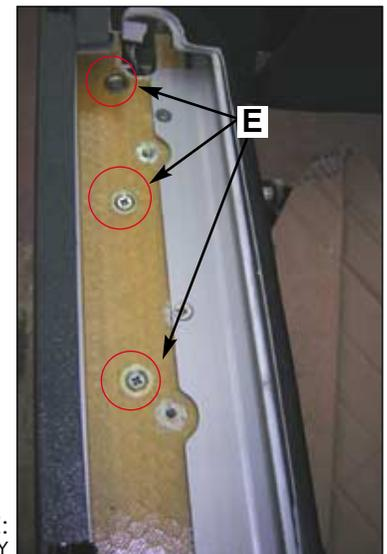

FIG. 305E:
- (6) Remove three screws (E) (see fig. 305E); the upper endbay is free to be removed.